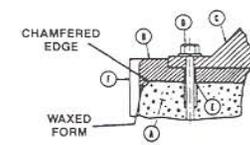

Figure 1. — REGULAR EQUIPMENT
- 2 The concrete surface must be chipped so aggregate is exposed to ensure all laitance and weak float are removed. Chamfering the edge of the concrete 45 degrees to about a 2 in. (51 mm) width is desirable. (See Figure 1.)